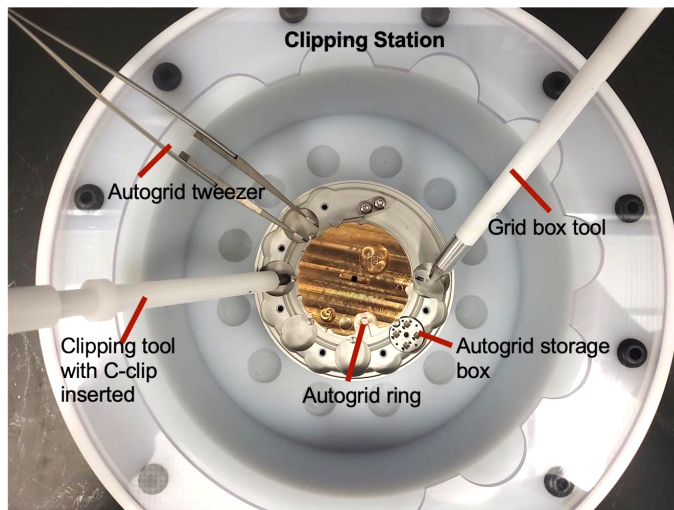

Figure 3. Clipping station with associated tools, labeled.
4.2.3. Cool down all of the required tools and place grid boxes in the clipping station (as in Figure 3).